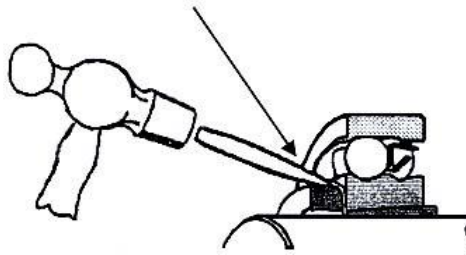

FIG 2.
- B. Pry the lock washer tab out of the locknut groove. (Fig 2)